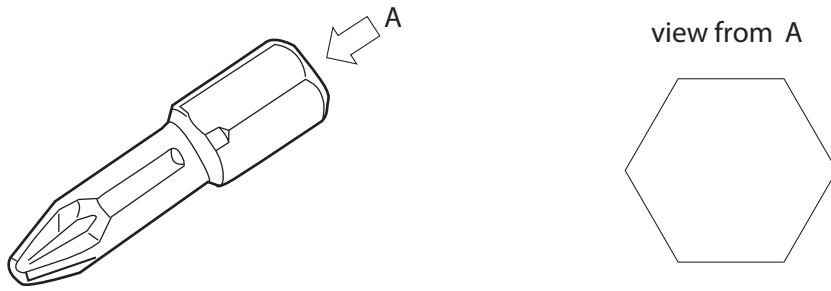

Fig. 11
Fig. 11 shows the screwdriver bit for a No 2 screw.
- (iv) Explain why the screwdriver bit is shaped as view from A in Fig. 11.